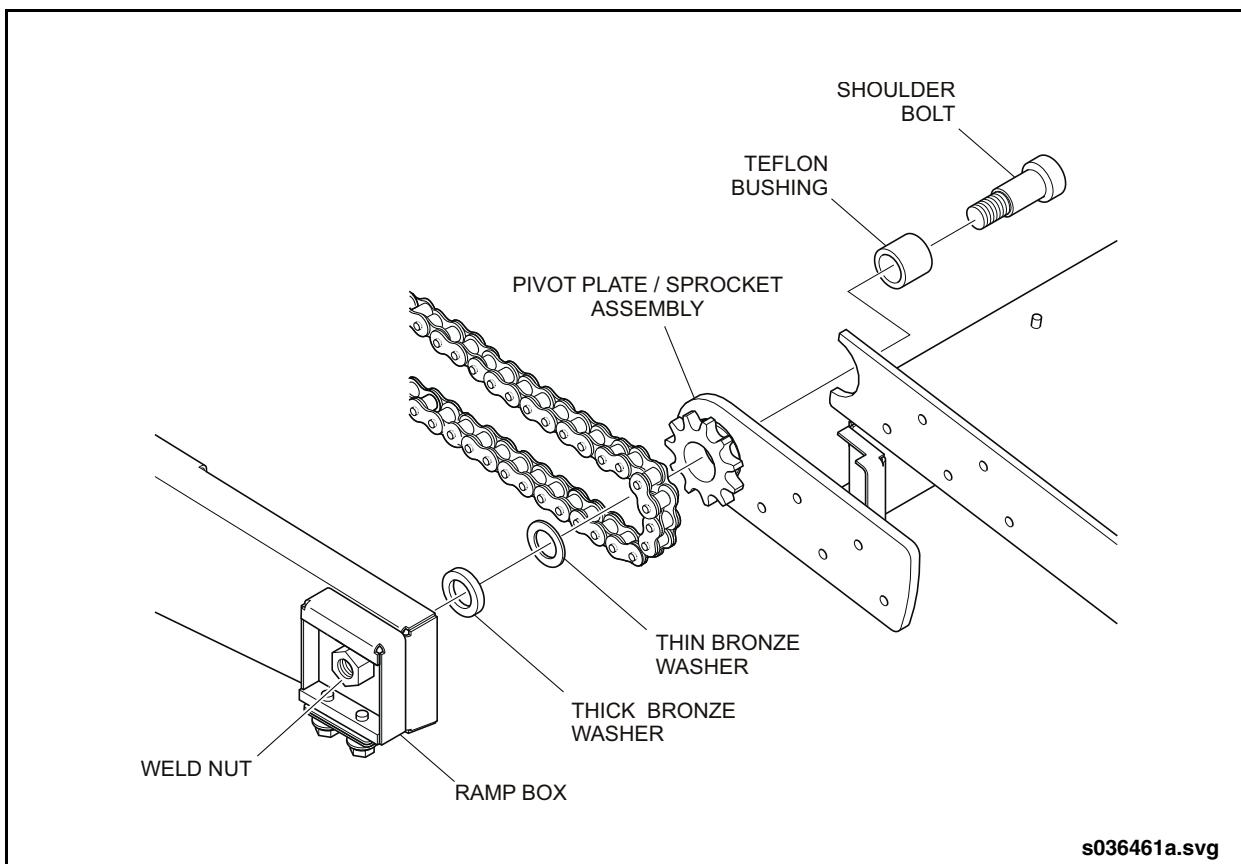

Fig. 20-13: Pivot Plate Installation
1. Assemble the ramp pivot plate/sprocket assembly using Teflon bushing, shoulder bolt, and thrust washers. Ensure Teflon bushing is fully seated in sprocket counterbore and the shoulder bolt is lubricated with lithium grease. See “Fig. 20-13: Pivot Plate Installation” on page 21.